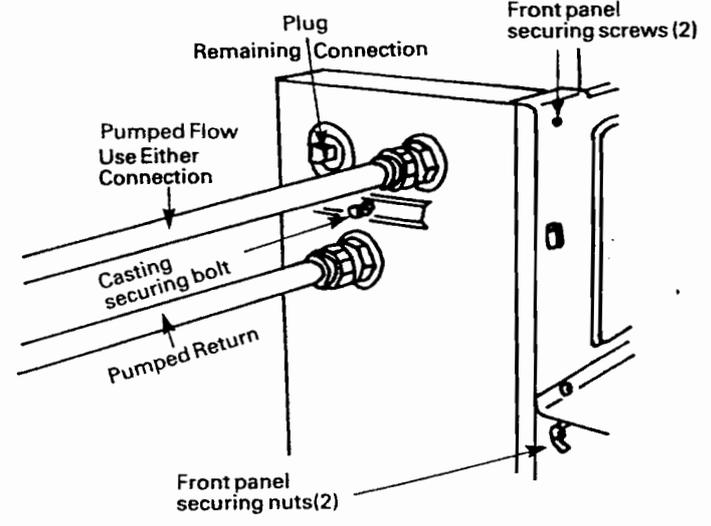

Fig. 6. Fully Pumped System
3. Remove the front panel (Fig. 6). Transfer the thermostat pocket blanking disc to the right hand hole.
6. Remove the casting securing bolt at the left hand side (Fig. 6).
7b Fully Pumped Systems The flow and return connections to the boiler to be as follows (Fig.6).